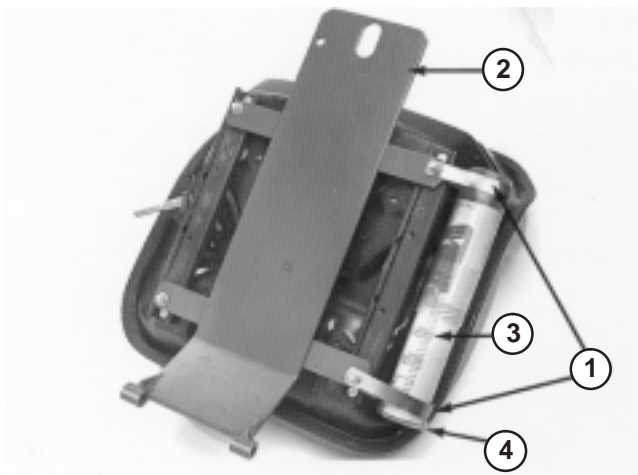

Figure 3
1. Loosely secure (2) R-clamps to right side of seat bottom with (2) capscrews and flatwashers supplied in kit (Fig. 3). Install manual tube into R-clamps and tighten capscrews (Fig. 3).